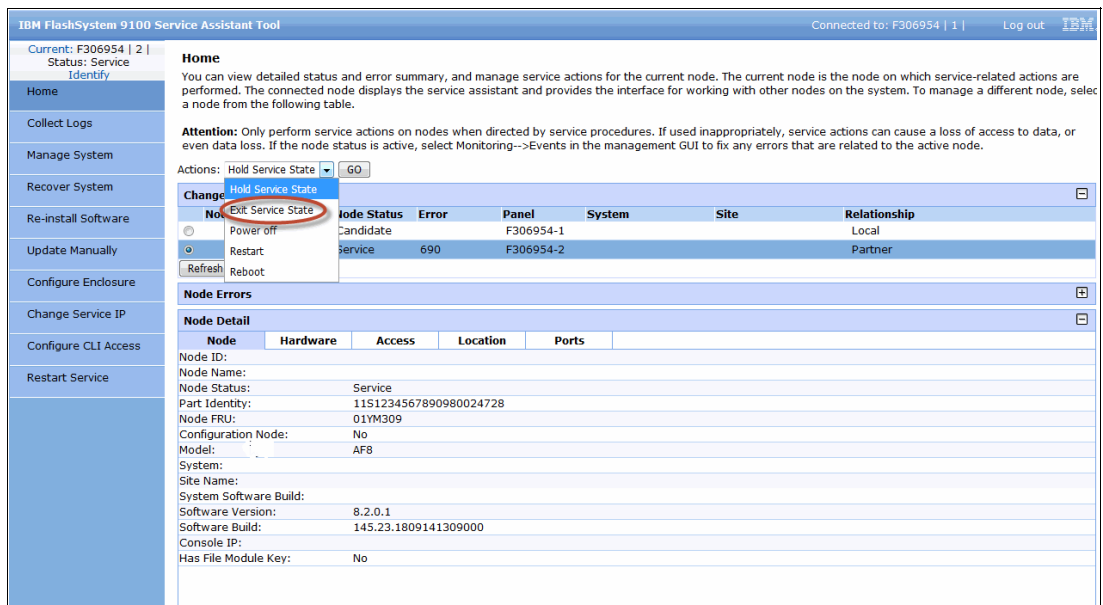

Figure 5-32 Change Node 2 status to Candidate
- Click node 2, select **Exit Service State** to change the node from Service to Candidate status as shown in Figure 5-32.